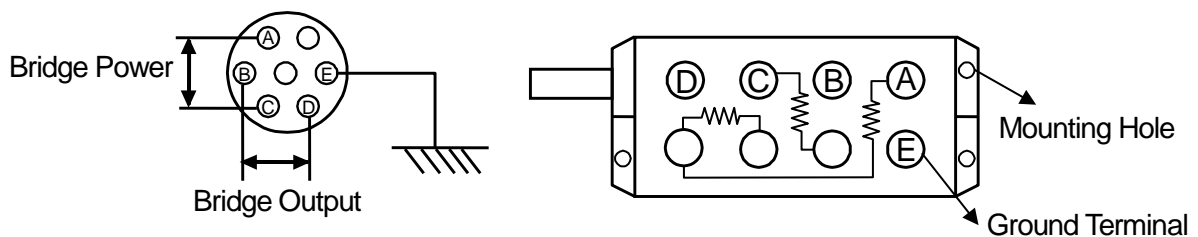

Fig.4-1 Overview of Bridge Box
(1) Installation
- b. The bridge box may be secured with screws using the screw holes shown in Fig.4-1, as needed.
(2) Connections to Bridge Box (5370)
- a. As shown in Fig.4-1, pins A and C are provided for the bridge power supply, and pins B and D are provided for the input to the amplifier unit. Pin E is the common terminal.